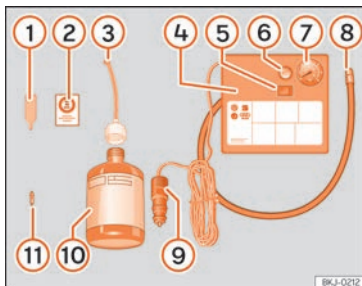

Fig. 98 Standard display: contents of the anti-puncture kit.
The anti-puncture kit is located underneath the floor covering in the luggage compartment. It includes the following components » **Fig. 98:**
Screw in the inflator tube » **Fig. 98** ⑧ again and check the pressure on the gauge ⑦.